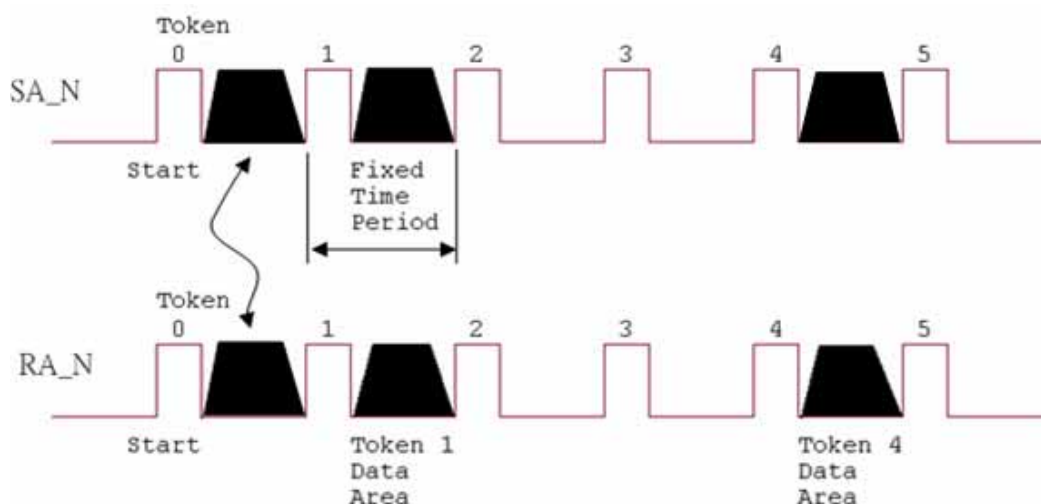

Figure 1.1 Token stream controlled by network manager, SA0
- The Token stream is produced cyclically by hardware at the fixed time interval, see Figure 1.1. Therefore, the FRnet I/O